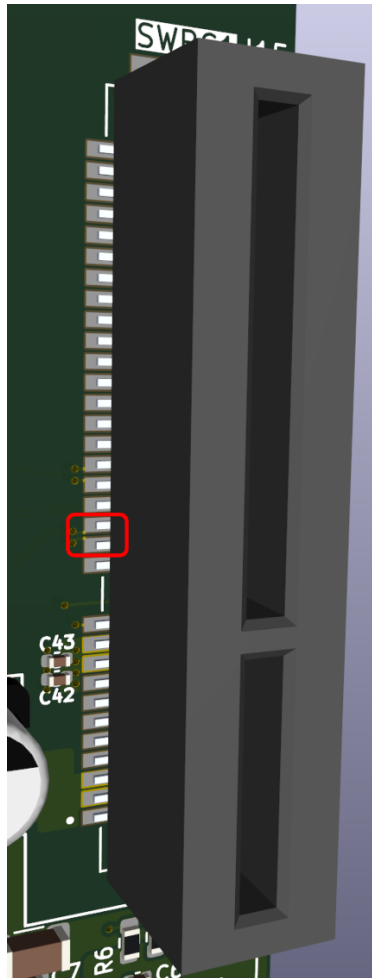

Figure 4: Measurement points on SWRC1
- With the board powered, probe the clock pins (A13/A14) on the **SWRC1** slot (at the connector entrance). **Refer to Figure 4.**